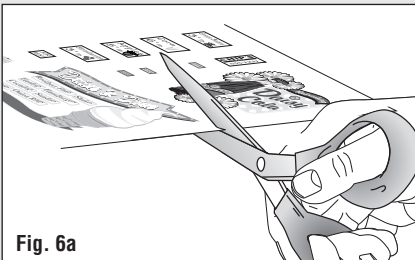

Fig. 6a
- Cut out Decals, leaving a slight edge (Fig. 6a).